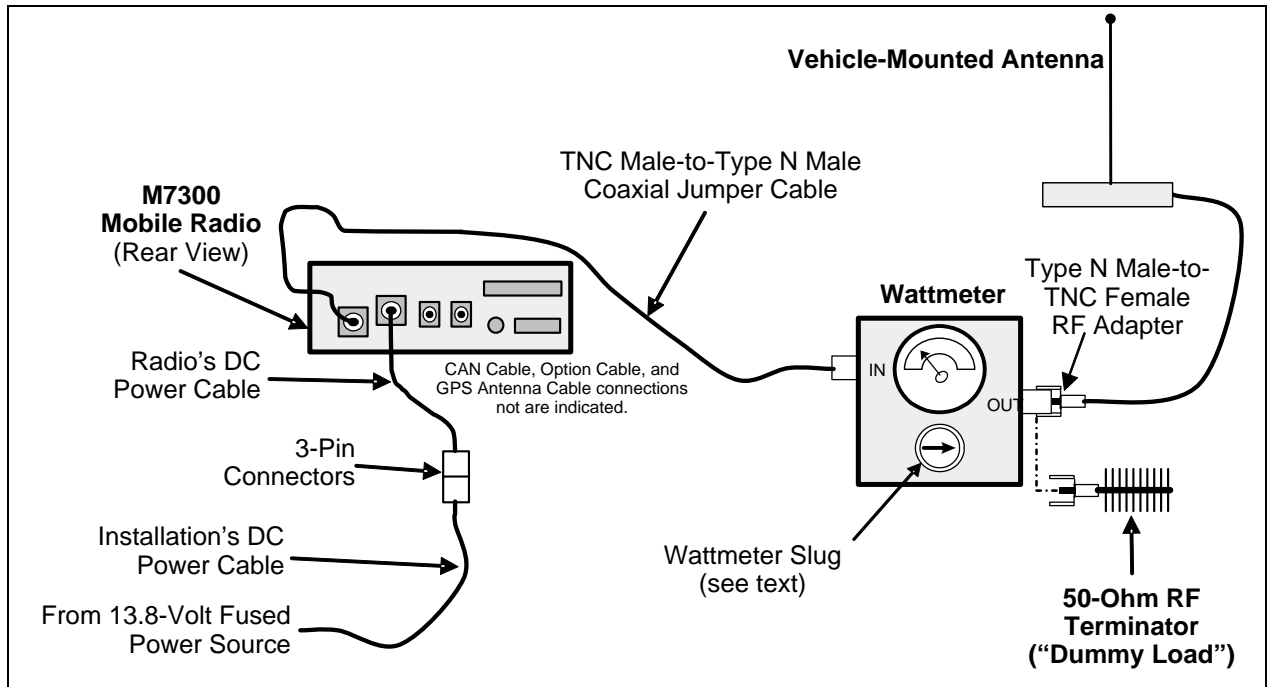

Figure 14-1: Wattmeter Connections for Antenna System Tests
- Using the Type N male to TNC male RF coaxial jumper cable, connect the radio's antenna connector to the wattmeter's input connector. Refer to Figure 14-1 as necessary.
1. Connect the antenna cable from the vehicle-mounted antenna to the wattmeter as shown in Figure 14-1.